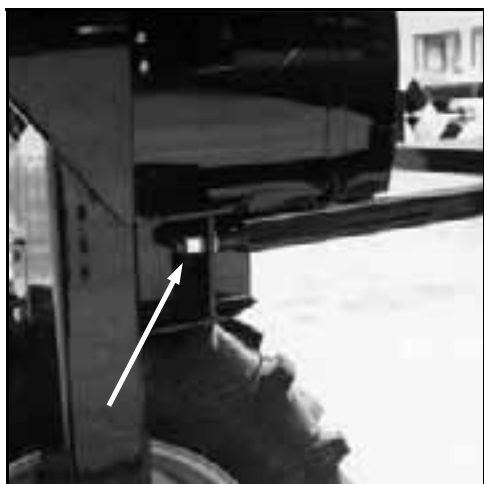

FIG 4.2
3. Loosen the rear lock nut on the leg brace (fig. 4.2). This will allow one leg to move further than the other without binding while adjusting the tread setting.